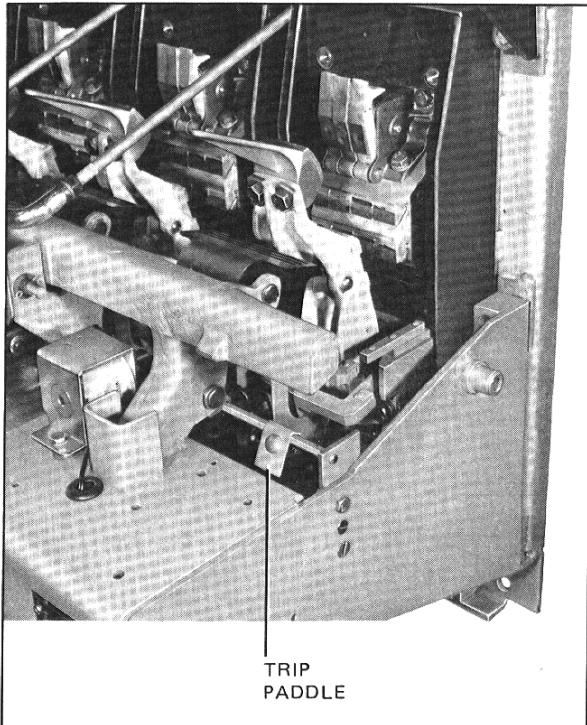

Fig. 27 Positioning of Actuator Trip Paddle DB-75/100
- Drill and tap .190-32 hole in breaker platform 2.18 from front and 2.38 from right side of platform, Fig. 27 and temporarily secure actuator parallel to the platform with "L" bracket in place using .190-32 x .75 screw, nut and washers, similar to Fig. 13.